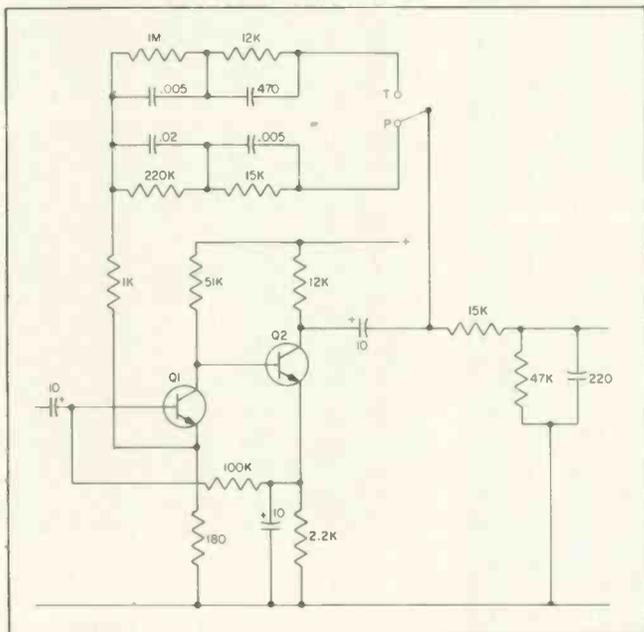

Fig. 1—Schematic of an actual negative-feedback equalization circuit currently used in a stereo Hi-Fi system.
■ The previous article explained the need for equalization and showed the response curves used for various purposes—RIAA and CCIR phonograph playback, NARTB and CCIR magnetic tape playback, and receiver de-emphasis. Also included were the basic circuit configurations for achieving each type of response in a passive network inserted between stages. The feedback-type equalization circuit described this month (Fig. 1) is taken from a Hi-Fi stereo system in current use; and it also provides for both phonograph and magnetic-tape equalization.